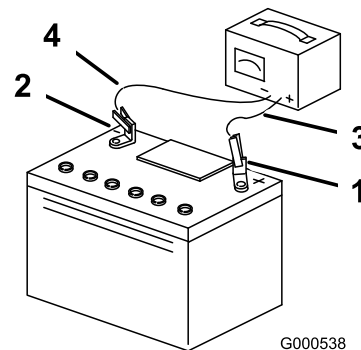

Figure 45
4. When the battery is fully charged, unplug the charger from the electrical outlet, then disconnect the charger leads from the battery posts (Figure 45).